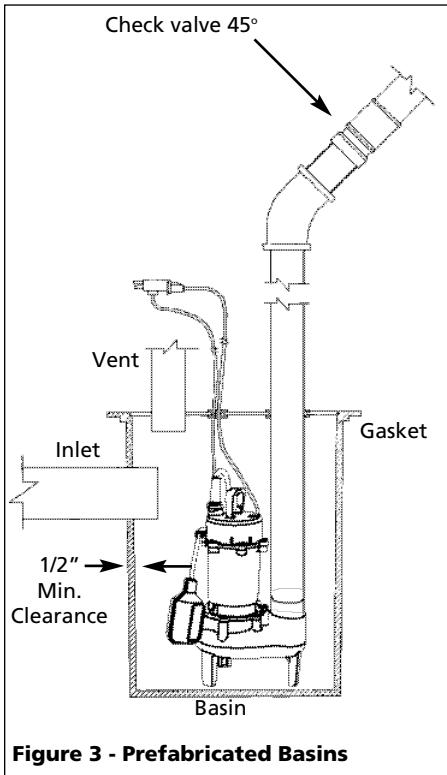

Figure 3 - Prefabricated Basins
6. The pump has a detachable tether switch with a piggyback plug (see Figure 3). The length of the tether (distance of cord from float to clamp) should not be set shorter than 3-1/4 inches and should not be used in a basin smaller than 14 inches in diameter. If using a differential other than the factory setting, be sure when the pump shuts off at least 4" of fluid is left in the basin so the impeller remains submerged.